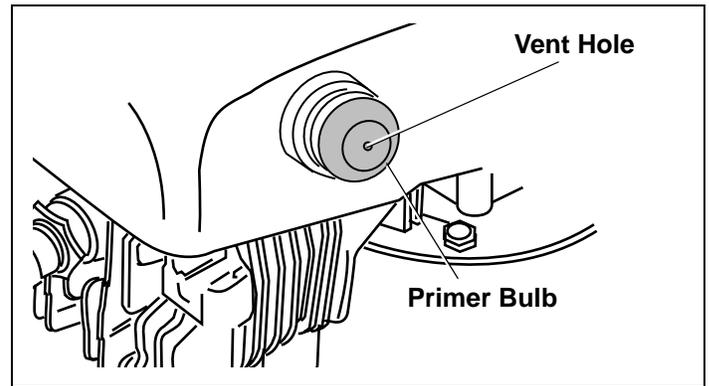

Figure 13. Engine Primer Bulb
4. When starting a cold engine, push primer bulb firmly with your thumb 3 times, allowing primer bulb to return completely to original position between pushes. See Figure 13 on page 7. Afterward, continue reading instructions below.
DO NOT use choke or primer bulb to restart a warm engine after a short shutdown. Doing so will flood the engine and may result in equipment malfunction. See Figure 13 on page 7. Afterward, continue reading instructions below.
4. When starting a cold engine, push primer bulb firmly with your thumb 3 times, allowing primer bulb to return completely to original position between pushes. See Figure 13.
DO NOT use choke or primer bulb to restart a warm engine after a short shutdown. Doing so will flood the engine and may result in equipment malfunction. See Figure 13.